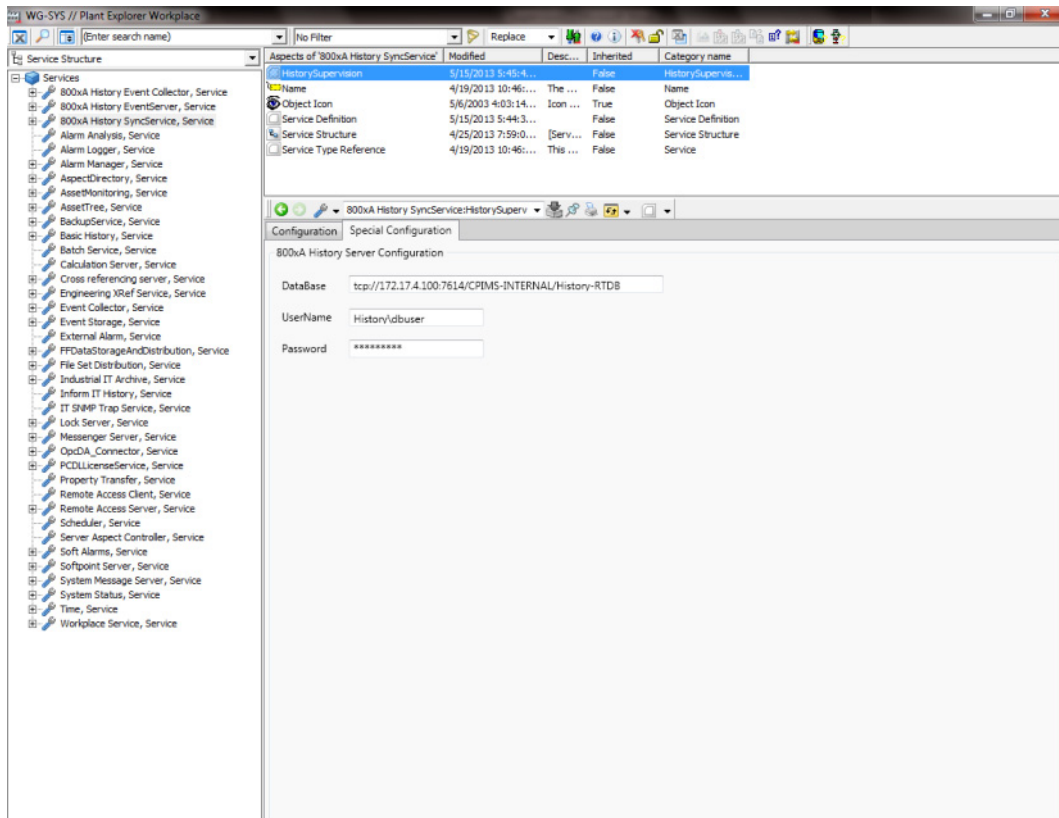

Figure 93. History Supervision
2. In the Aspect View, select **History Supervision** as shown in Figure 93.
4. Go to **Special Configuration** tab and configure history server database details as shown in Figure 93.